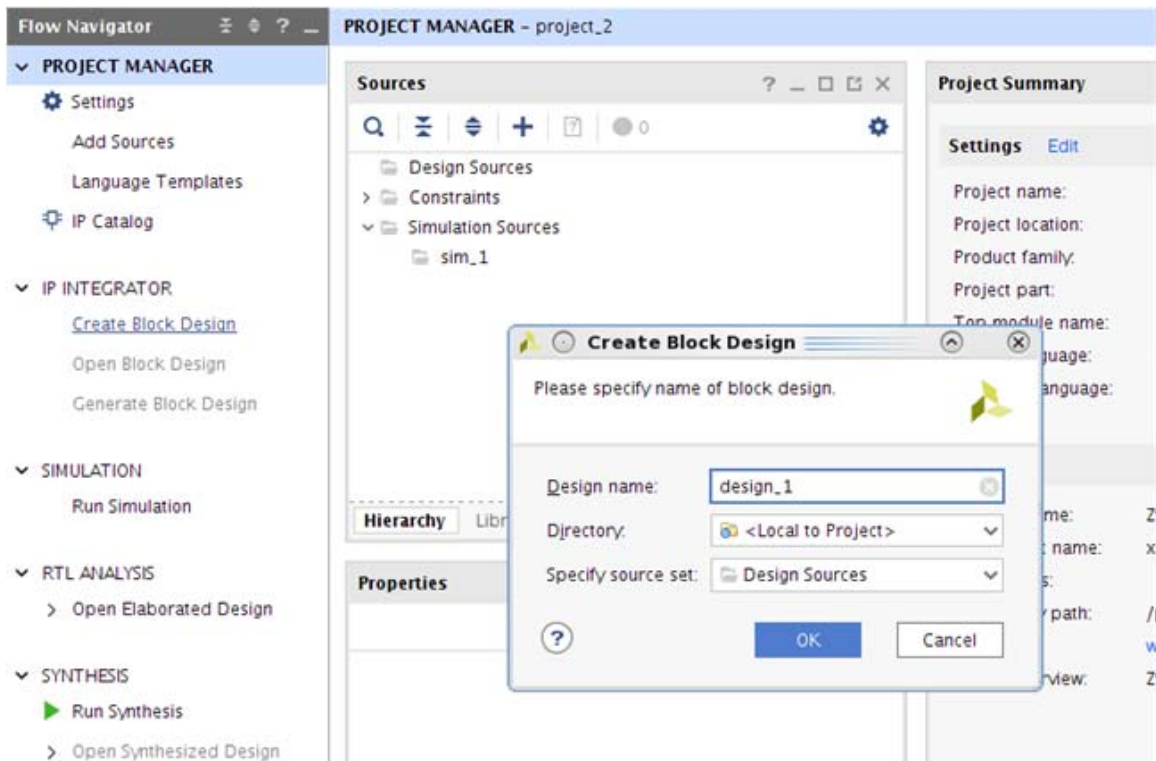

Figure 5-5: Create Block Design
5. In the Flow Navigator (Figure 5-5), click **Create Block Design** (BD). Select a name for BD and click **OK**.